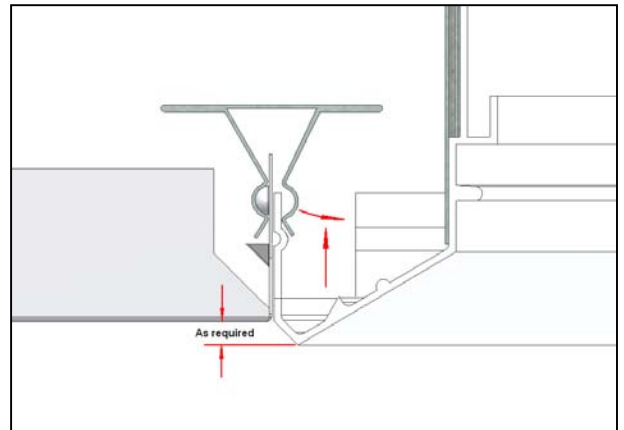

**Figure 7: Drill & fix Frame & Plenum**
8. Drill through the Diffuser Frame and Plenum wall. Secure them using Pop Rivets or Screws (see figure 7). Repeat this on all sides.